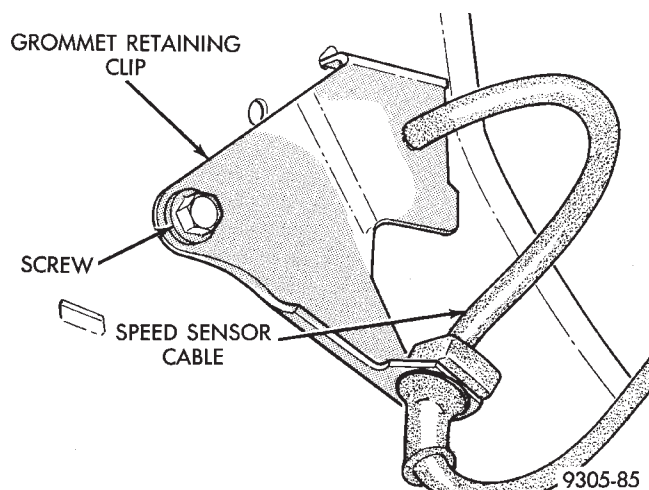

Fig. 5 Front Speed Sensor Cable Retaining Clip
(1) Raise vehicle and remove wheel and tire assembly.
(2) Remove screw from grommet retainer clip that holds cable grommet into fender shield (Fig. 5).
(4) Push speed sensor cable grommet into hole in fender shield. Install grommet retaining clip and screw (Fig. 5).